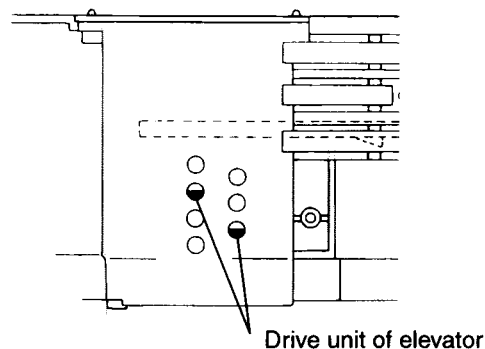
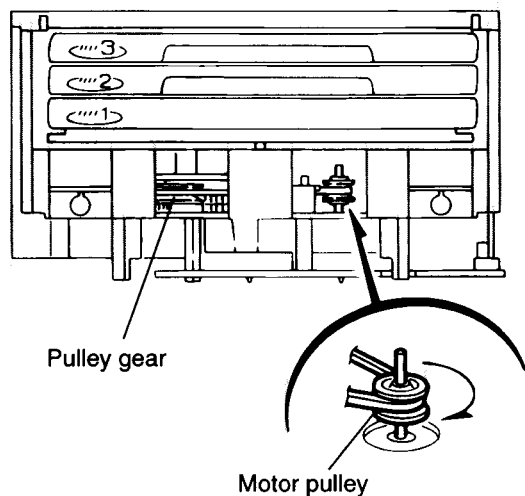

Fig.7
Fig.8
[Caution] In case the driver unit elevator is not at above position, set the elevator to the position as shown in Fig.7 by manually turning the pulley gear as shown in Fig.8.
13. Manually turn the motor pulley in the clockwise direction until the lifter unit stopper is lowered from the section E of CD tray assembly (See Fig.8).